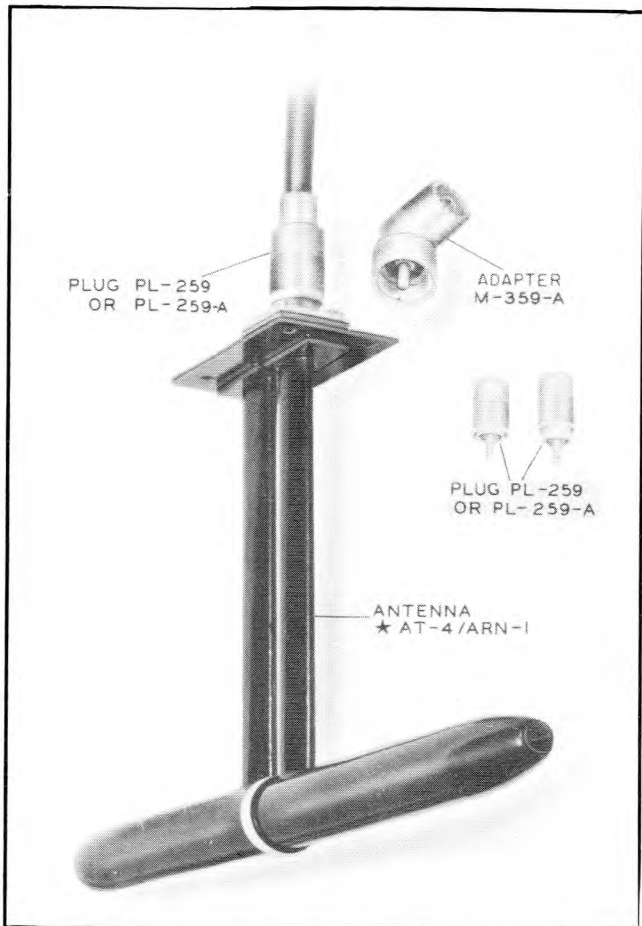

Figure 1-6. Antenna ★AT-4/ARN-1 and Plug
(2) INDICATOR I-152-B or I-152-C.—These indicators are similar to Indicators I-152-A and I-152-AM but provisions are made to change the scale by a switch from 0 to 5000 feet to 0 to 50,000 feet.
c. ANTENNA SYSTEM.—Two Antenna ★AT-4/ARN-1 are provided for attachment to a metal surface on the underside of the wings, fuselage or horizontal stabilizer of the aircraft. Each antenna is a dipole antenna of approximately one-half wave length. A mounting bracket places the dipole approximately one-quarter wave length from the body of the aircraft. Input impedance is 50 ohms. (See fig. 1-6.)
(b) The transmitting and receiving antennas (see figure 1-6) are identical in mechanical and electrical characteristics. Unless there is a possibility of mutual interference with other radio equipment in the aircraft (refer to par. 2d (2) (c) this section), either antenna may be used for transmitting or receiving without affecting the operation of the altimeter in any way.